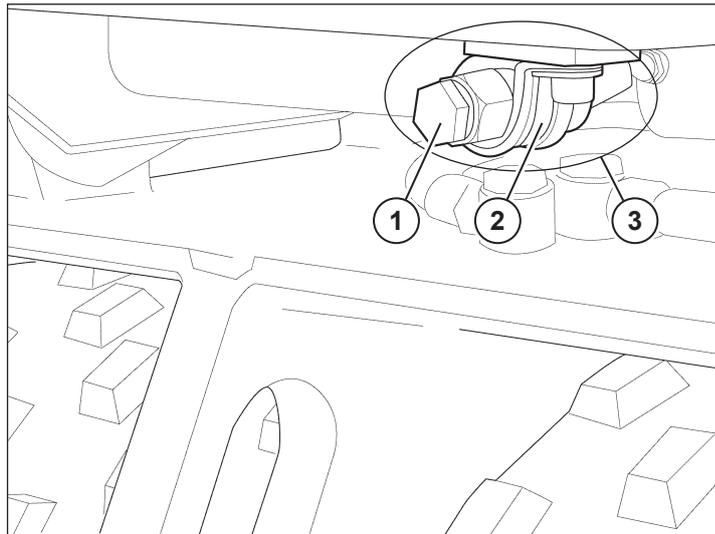

Fig. MW1: Undoing the "A" clip
- ➔ Undo the clip **2** on the oil drain hose **3** (Fig. MW1).